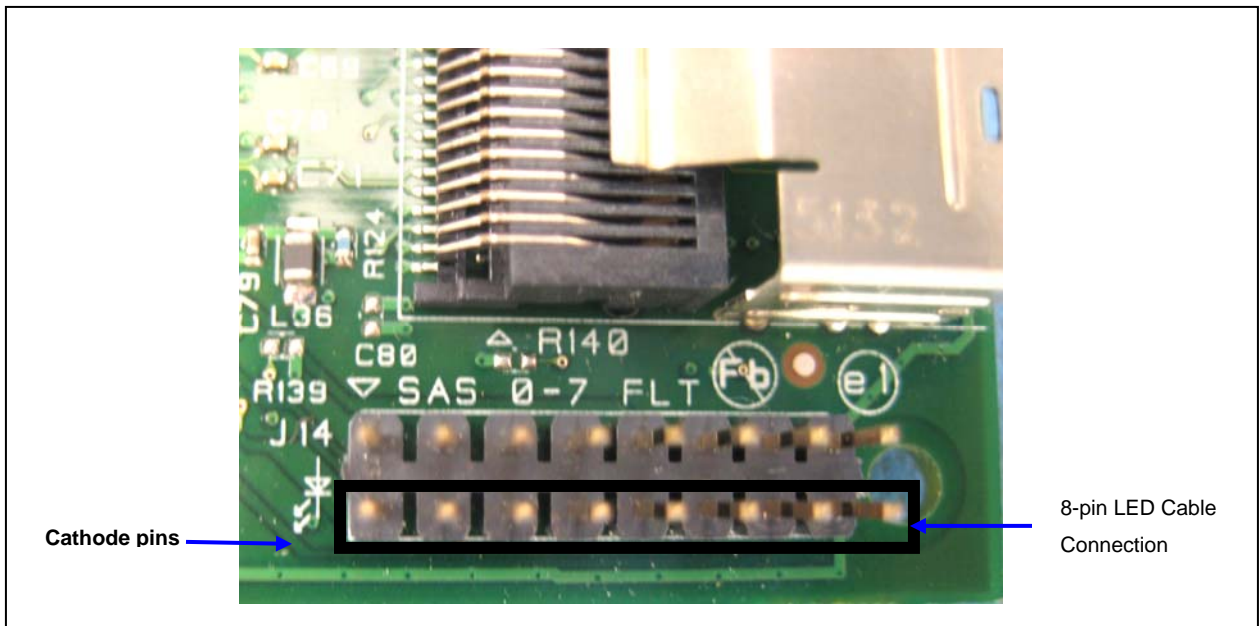

Figure 3 Connection of the 8-pin Connector to LSI Card
2. The 8-pin Cable Connector must be connected to the LSI Card on the 8x2 Fault LED Header on Cathode Pins as shown on Figure 3.